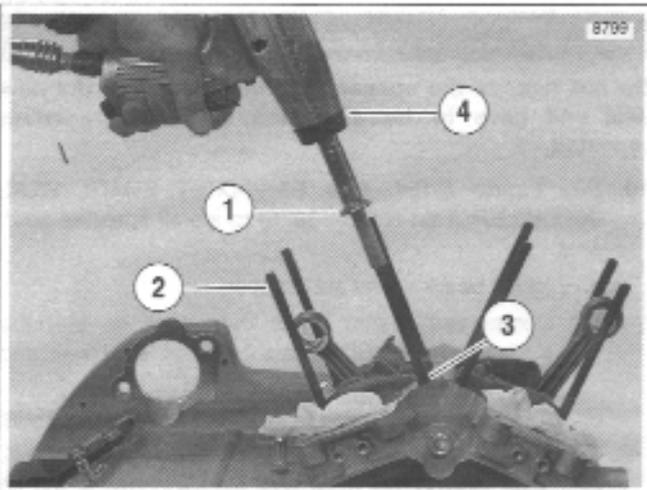

**Figure 3-154. Sprocket Shaft Seal/Spacer Installer
10. See Figure 3-154. Use SPROCKET SHAFT SEAL INSTALLER (Part No. B-45676) to install sprocket shaft seal.